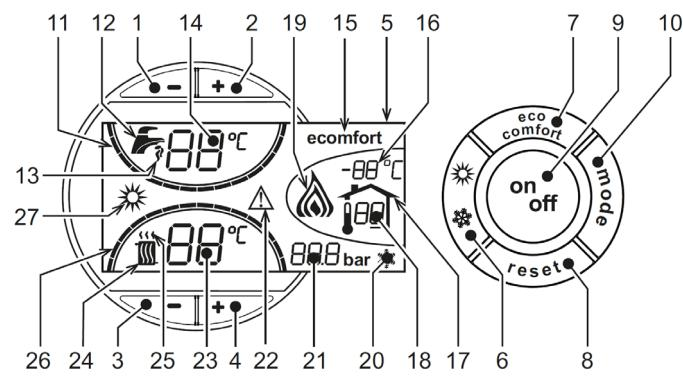
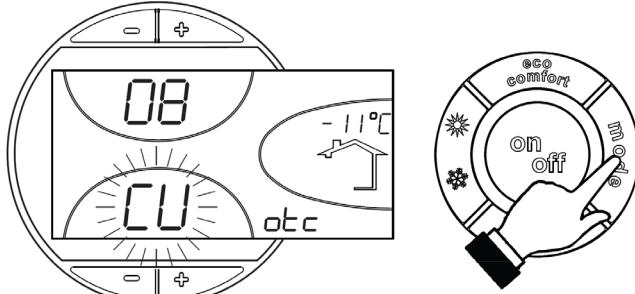
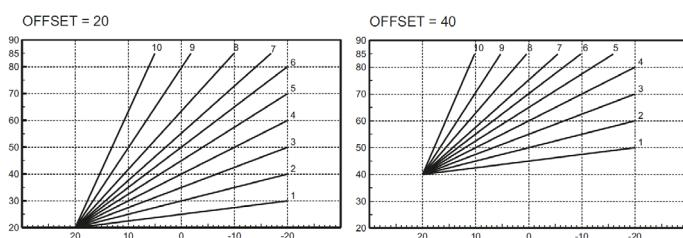

fig.1 - Control panel
fig.13 - Compensation curve
fig.16 - Example of compensation parallel curve offset
A heating demand (generated by the Room Thermostat or Remote Timer Control) is indicated by flashing of the hot air above the radiator (details 24 and 25 - fig.1).
The heating graduation marks (detail 26 - fig.1) light up as the heating sensor temperature reaches the set value.
A DHW demand (generated by drawing domestic hot water) is indicated by flashing of the hot water under the tap (details 12 and 13 - fig.1).
The DHW graduation marks (detail 11 - fig.1) light up as the DHW sensor temperature reaches the set value.
**Comfort mode (to have DHW service the Comfort must be activated)** The need to reset the internal temperature of the boiler (Comfort mode) is signaled by the blinking of the respective symbol (15 and 13 - fig.1)
The operation of the accumulator (heating and maintenance in temperature) can be deactivated by the user. In such a case, there is no sanitary hot water supply. When the accumulator is activated (default option), the COMFORT symbol appears on the display (15 - fig.1); if it is deactivated, the ECO symbol (15-fig.1) is displayed. To deactivate the heater and set the ECO mode, press the eco / comfort key (7- fig.1). To return to COMFORT mode, press the eco / comfort key again (7- fig.1)
Press the on/off button (detail 9 - fig.1) for 1 second.
The antifreeze system remains activated. To relight the boiler, press the on/off button (detail 9 - fig.1) again for 1 second.
Press the summer/winter button (detail 6 - fig.1) for 1 second.
The display activates the Summer symbol (detail 27 - fig.1): the boiler will only deliver domestic hot water. The antifreeze system remains activated.
To deactivate the Summer mode, press the summer/winter button (part. 6 - fig.1) again for 1 second.
Use the heating buttons (details 3 and 4 - fig.1) to adjust the temperature from a min. of 30°C to a max. of 80°C.
Use the DHW buttons -/+ (details 1 and 2 - fig.1) to adjust the temperature from a min. of 10°C to a max. of 65°C.
When the optional external probe is installed the control panel display (detail 5 - fig.1) shows the actual outside temperature read by the probe. The boiler control system operates with "Sliding Temperature". In this mode, the temperature of the heating system is adjusted according to the outside weather conditions, in order to ensure high comfort and energy saving throughout the year. In particular, as the outside temperature increases, the system delivery temperature is decreased according to a specific "compensation curve".
-/+ (details 3 and 4 - fig.1) becomes the maximum system delivery temperature. It is advisable to set a maximum value to allow system adjustment throughout its useful operating range.
Press the mode button (detail 10 - fig.1) once to display the actual compensation curve (fig.13), which can be modified with the DHW buttons (details 1 and 2 - fig.1).
Press the **heating buttons** (details 3 and 4 - fig.1) to access parallel curve offset (fig.16), modifiable with the **DHW buttons** (details 1 and 2 - fig.1).
Press the **mode** button (detail 10 - fig.1) again to exit parallel curve adjustment mode.
Also, the control panel display (detail 5 - fig.1) shows the actual room temperature detected by the Remote Timer Control.
Eco/Comfort selection	On disabling DHW from the Remote Timer Control menu, the boiler selects the Economy mode. In this condition, the button 7 - fig.1 on the boiler panel is disabled On enabling DHW from the Remote Timer Control menu, the boiler selects the Comfort mode. In this condition it is possible select one of the two modes with the button 7 - fig.1 on the boiler panel.